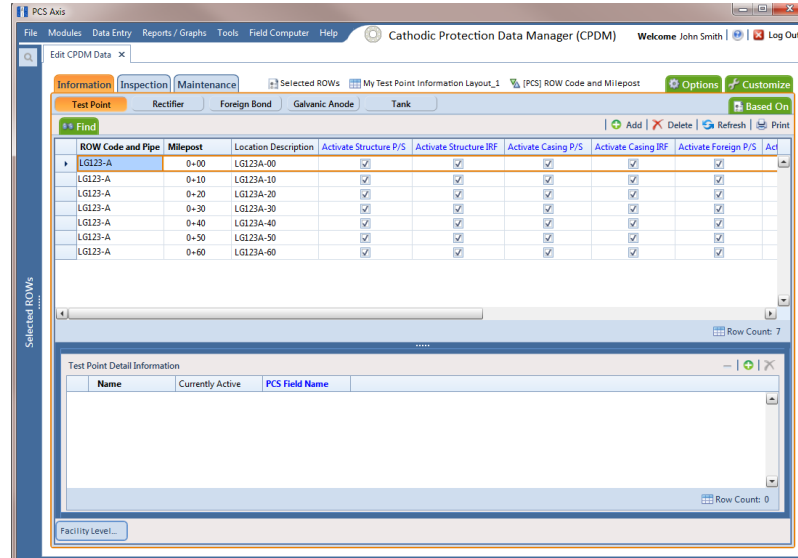

Figure 7-125. Test Point Detail Information
- 4 If the *Test Point Detail Information* mini-grid is not visible, double-click the **Test Point Det...** button Test Point Det... at the bottom of the window to open the mini-grid (Figure 7-125).